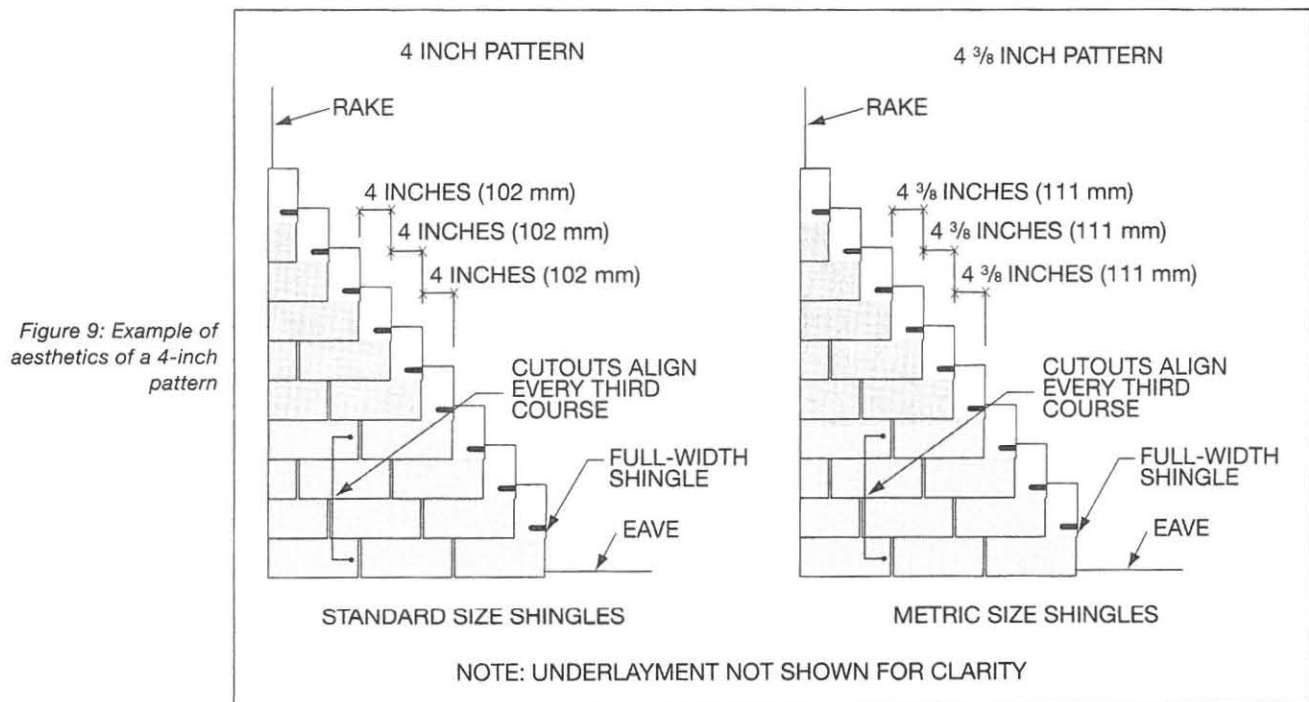

Figure 9: Example of aesthetics of a 4-inch pattern
- Cutouts that break joints on thirds, or the 4-inch method — A cutout is the section of a three-tab asphalt shingle that has been cut out at a factory to separate individual tabs. For standard size shingles, the offset pattern is achieved by offsetting the consecutive shingle courses by 4 inches (100 mm) as shown in Figure 9. For metric-sized shingles, the offset pattern is achieved by offsetting each consecutive course 112 mm (4 $\frac{3}{8}$ inches). Cutouts are also referred to as key-way or water-slots. However, it is the gauging of these cutouts in neighboring shingle courses that gives a shingle roof system a particular pattern. See Figure 9.